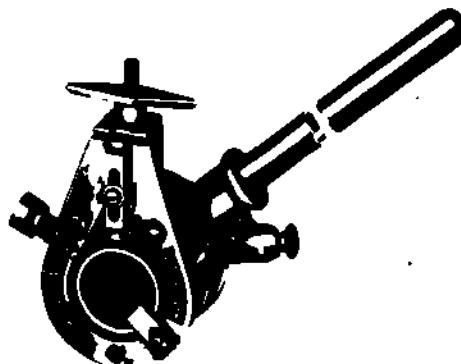

Figure 1-79. Victaulic Pipe Groover
- a) Victaulic pipe groovers are available in both manually operated and power-operated types. The lighter models are portable; the heavier ones are more suitable for shop production. Groovers are available for cutting grooves in pipes from NPS $\frac{1}{2}$ to NPS 24. Shown in Figure 1-79 is one type of Victaulic groover, known as the Individual Vic Groover, which is available for pipes from NPS $\frac{1}{2}$ to NPS 8 with an adjustable model for NPS 4 to NPS 6 steel pipe.